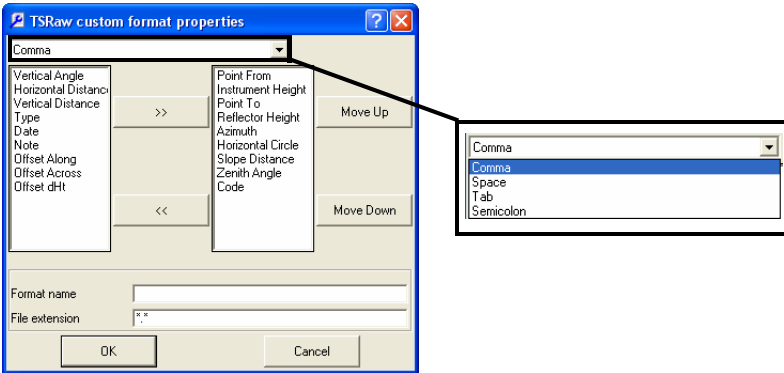

Figure 3-28. Select Delimiters
6. On the *TSRaw custom format properties* dialog box, select the *Delimiters* from the drop-down list (Figure 3-28).